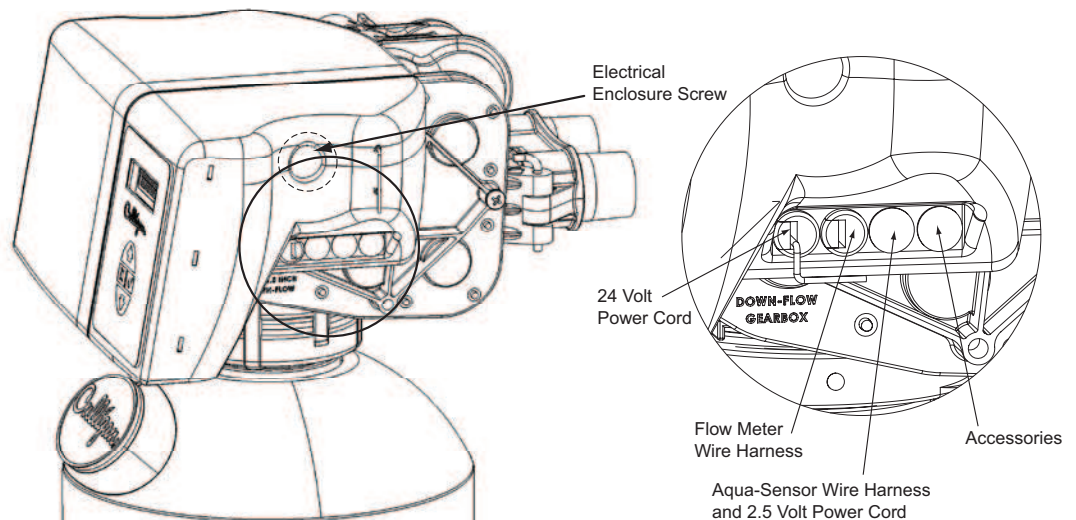
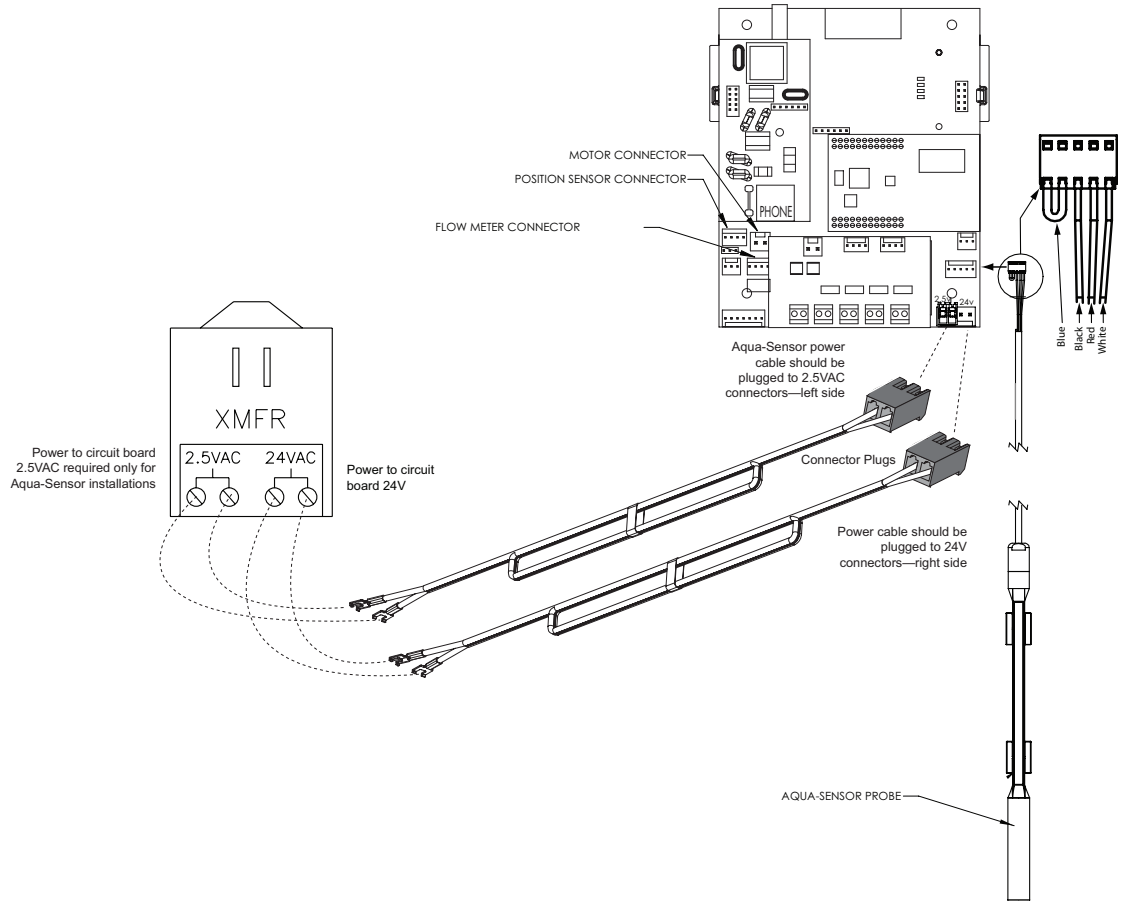

Figure 18. Circuit board connections.
Figure 21. 2.5 VAC Aqua-Sensor® power connection.
The 24 Volt power supply and flow meter wire harness is already connected to the circuit board. If no other circuit board connections are required proceed to the First Time Setup. Refer to the instructions below and Figure 18 to Figure 21 for connecting the Aqua-Sensor probe wire harness to the circuit board.
1. Remove the electrical enclosure from the control valve. First remove the electrical enclosure screw and then gently remove the enclosure from the control. Refer to Figure 18 and below instructions.
7. Insert the Aqua-Sensor 2.5 Volt power cord through the third hole on the enclosure. Insert the Aqua-Sensor sensor probe wire harness through the fourth hole on the enclosure. See Figure 18.
8. Connect Aqua-Sensor probe wire harness to the circuit board. The Aqua-Sensor probe terminal is labeled "Aqua-Sensor." See Figure 21.
- d. Connect the other end of the power cord, with the spade terminals, to the two 2.5 VAC terminals on the transformer. See Figure 21.